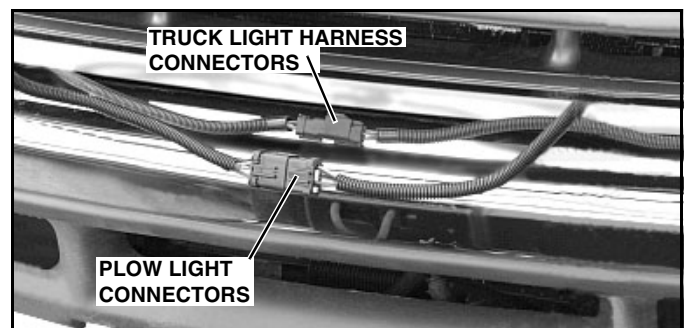

Figure 1-30
1. Unplug EIS® light harness connectors on truck, and disconnect plow light connectors, which had been plugged together for corrosion protection during storage. (See Figure 1-30).